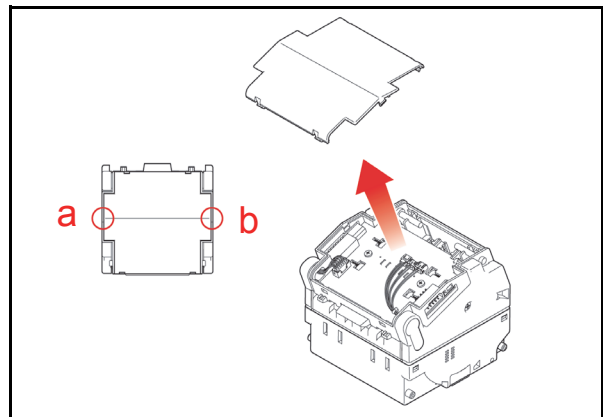

Figure 4-2 Taiko CPU Board Cover Removal
1. Insert a medium size Flatblade Screwdriver into the gap located on the left or right side area of the Upper Lid Cover (See Figure 4-2 a & b), and gently lift the Cover up and off the Assembly.